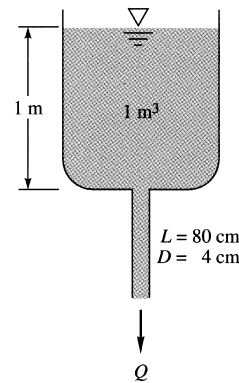

Fig. P6.63
**6.63** A tank contains  $1 \text{ m}^3$  of water at  $20^\circ\text{C}$  and has a drawn-capillary outlet tube at the bottom, as in Fig. P6.63. Find the outlet volume flux  $Q$  in  $\text{m}^3/\text{h}$  at this instant.
**Solution:** Recall that  $\rho = 998 \text{ kg/m}^3$ ,  $\mu = 0.001 \text{ kg/m}\cdot\text{s}$ , and  $\varepsilon/d \approx 0.0000375$ . Let  $Z$  be the depth of water in the tank ( $Z = 1 \text{ m}$  in Fig. P6.63). When  $Z = 0$ , find the flow rate: